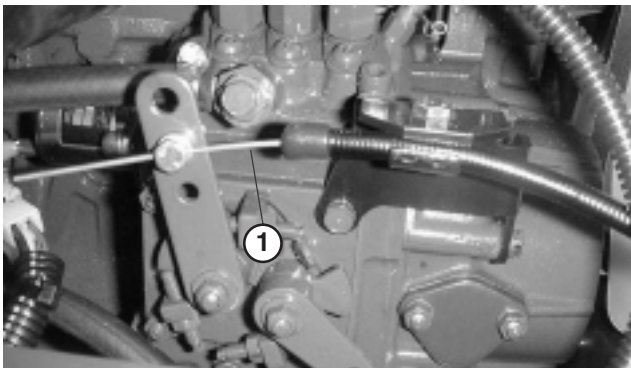

Figure 42
1. Adjust throttle cable (Fig. 42) so governor lever on engine contacts low and high speed set bolts before throttle lever contacts slot in control panel.